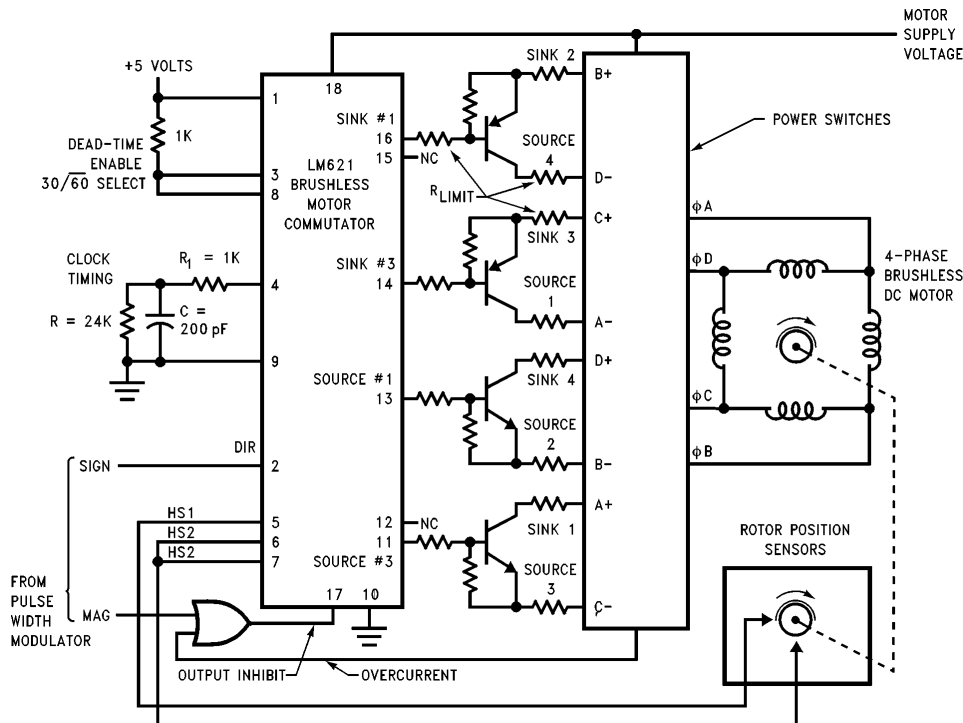

FIGURE 6. Commutation of Four-Phase Motor
**Note 2:** For four-phase motors sink and source outputs number two (pins 15 and 12) are not used; hence the “na” (not applicable) in the appropriate columns above. *Figure 6* shows how the required sink and source outputs for four-phase motors are derived.
Figure 6 is typical of the circuitry used to commutate a four-phase motor using the LM621. This application is seen to differ from the three-phase application example in that the LM621 outputs are utilized differently. Four-phase motors require four-phase power switches, which in turn require the commutator to provide four current-sinking outputs and four current sourcing outputs. The 18-pin package of the LM621 facilitates only three sinking and three sourcing outputs. The schematic shows the 30/60 SELECT input in the 30-degree select state (pin 8 high) and rotor-position sensor inputs HS2 and HS3 connected together. This connection truncates the number of possible rotor-position input states to four, which is consistent with the 90-degree quadrature rotor-position signals provided by four-phase motors. With the LM621 outputs connected as shown, this approach provides the needed power-switch drive signals for a four-phase motor. Note that only four of the six LM621 outputs